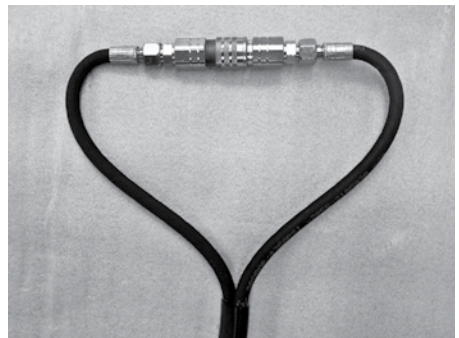

Fig. 54
5. Uncouple the cylinder and create a short-circuit connection. (Fig. 54)
→ Short-circuit connection (Fig. 54).